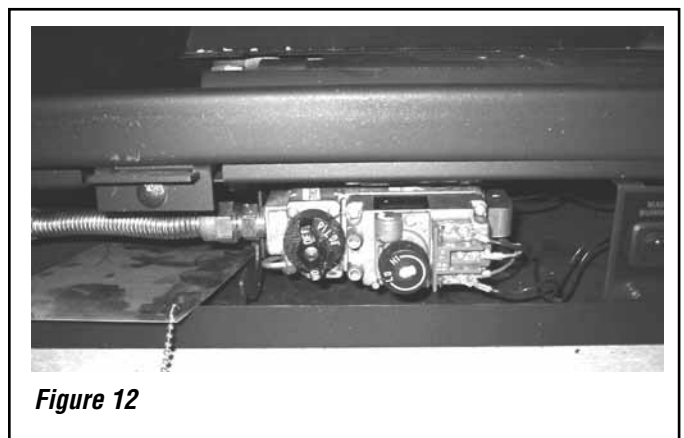

Figure 13
- b) Remove the phillips screw from the pilot/on/off gas control knob as shown (see **Figure 13**).